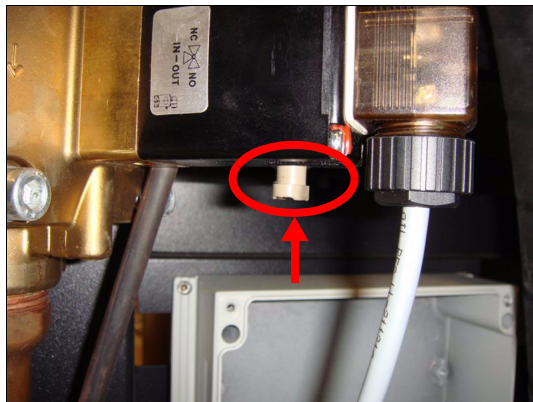

Figure 4-47 Solenoid valve in the "out" position⁸
10. Return the knob on the solenoid valve back to the out position by turning it a quarter turn and letting the knob drop down. See Figure 4-47.